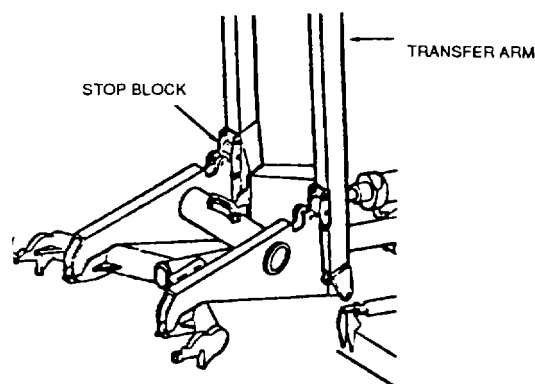
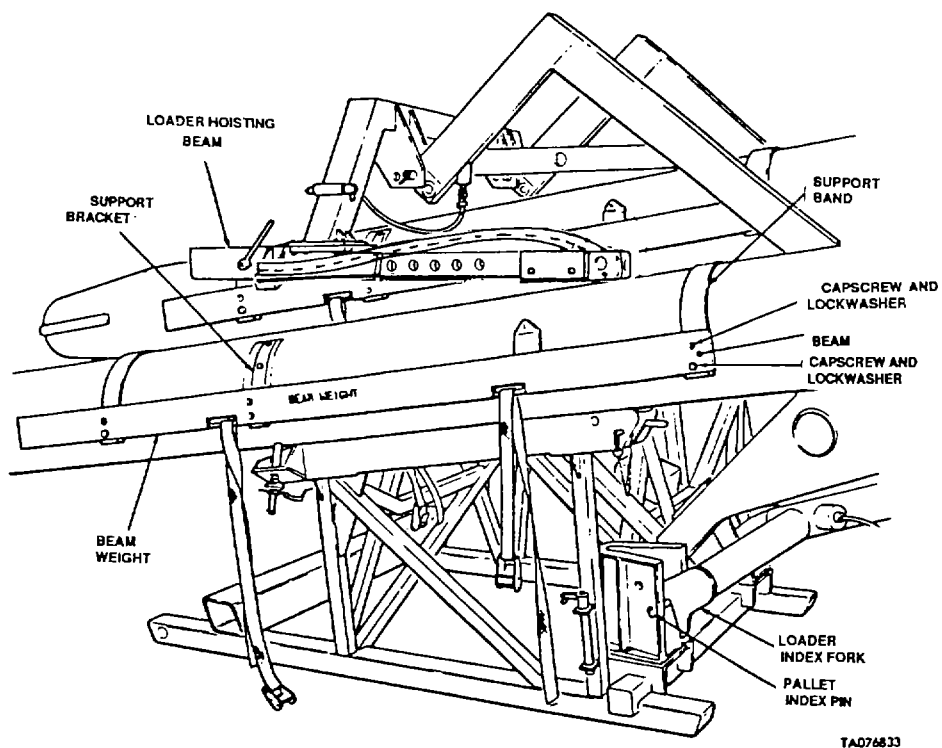

Figure 6-13. Extended Superstructure.
Figure 6-16. Loader Indexed to Training Missile.
(3) Extend superstructure. Maintain engine at 1500 + or - 250 RPM, and observe the reduced pressure light until the cylinder has extended a few inches beyond the point where the transfer arms hit the right-hand stop block (figure 6-13).
(4) The reduced pressure light should go on just after the transfer arm hits the stock block. If this does not happen, the pressure reduction system is not working properly. Refer to paragraphs 3-27, 3-36, and 3-38 for fault location and correction before doing the proof-load test.
(5) If the light is observed, return stop blocks to the IMPROVED position.
- Before indexing to HAWK pallet or launcher, be sure the **STOP BLOCKS** on the transfer arm cross brace are in the **IMPROVED** position, to prevent damage to the equipment (Figure 6-13).
(1) Engage the loader suspension lockout.
(2) Index the loader to the missile storage pallet loaded with three training missiles (figure 6-16). Each missile must have attached to it the two 66-pound beam weights, two support brackets, two support bands and two beams previously installed in paragraph f above.
- Make sure that both stop blocks (figure 6-13) are in IMPROVED position.